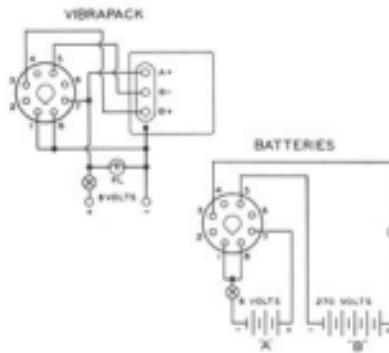

Figure 9. Octal plug wiring diagram
2. Wire an octal plug, as shown in Fig. 9, and plug it into socket SO-1. Use #19 (AWG) wire leads for the 270 volt "B" supply connections to pins #3 and #6, and #18 (AWG) wire leads for the 6 volt battery connections to pins #1, #7, and #8. **CAREFUL!** Check the wiring carefully before connecting to the battery supply. The chart below lists the current voltage data.